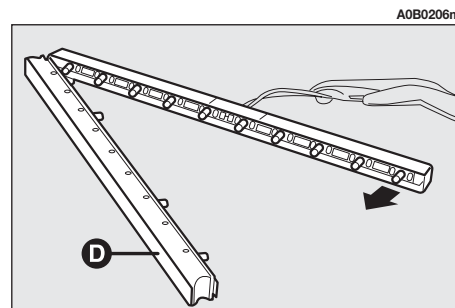

fig. 51
- Remove the transparent cover (**D-fig. 51**) and replace the bulb concerned.